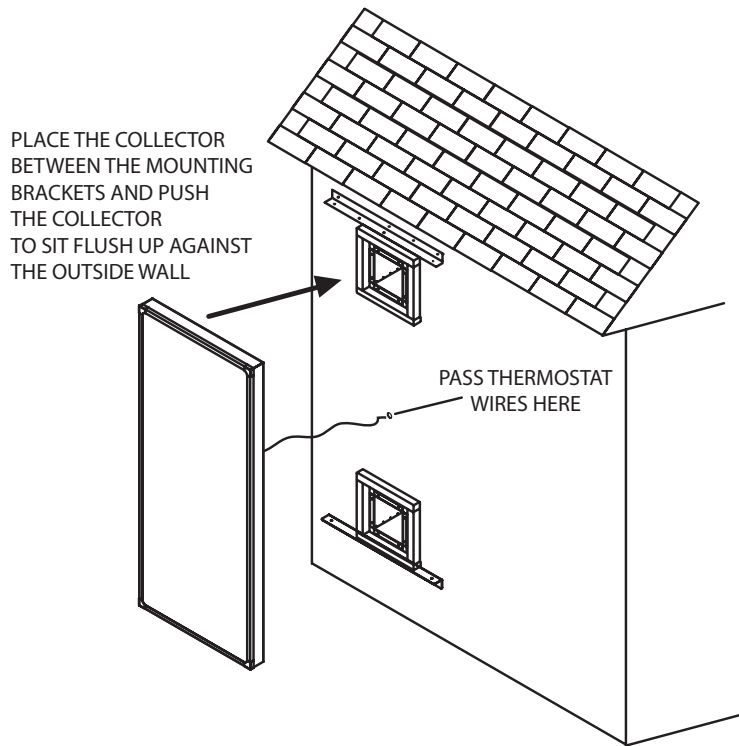

Figure 19. Mounting the collector in place.
k. Once the mounting brackets are secure, pass the thermostat wires through the 1/4" hole on the outside wall as show in Figure 19. Ensure that the bottom of the collector is flush with the lower bracket. Ensure that the back draft damper collar fits into the top outlet hole of the solar collector and push the panel in place.